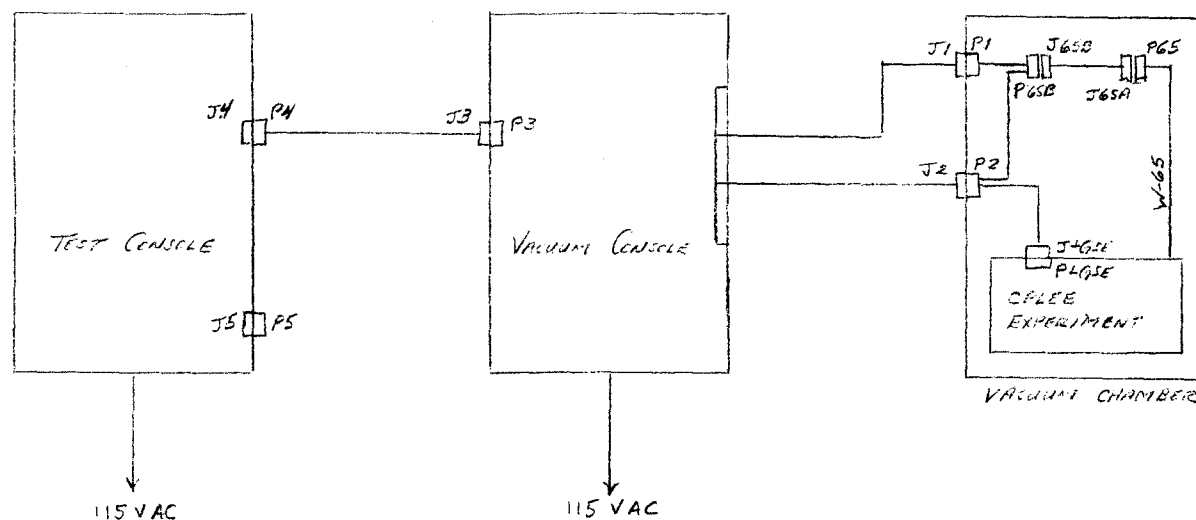

FIGURE 1 CPLEE EXPERIMENT AND ETS CABLING DIAGRAM
(1) Refer to Fig. 1 for ETS Selector Switch Designation.